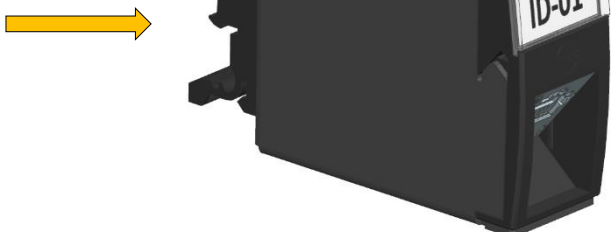

Fig.3K
- Install the assembled jack adapter onto the DIN rail using the snapping features on the plastic DIN clip. Place the top snap feature onto the DIN rail and gently push the assembly until the bottom flexible snap feature engages with the DIN rail (Fig 3K).